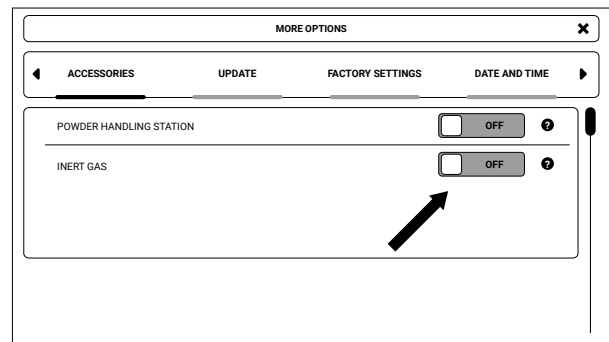

Fig. 10.2 **INERT GAS** activation in the printer.
3. Under the **ACCESSORIES** tab, switch to ON next to **INERT GAS** (fig. 10.2).